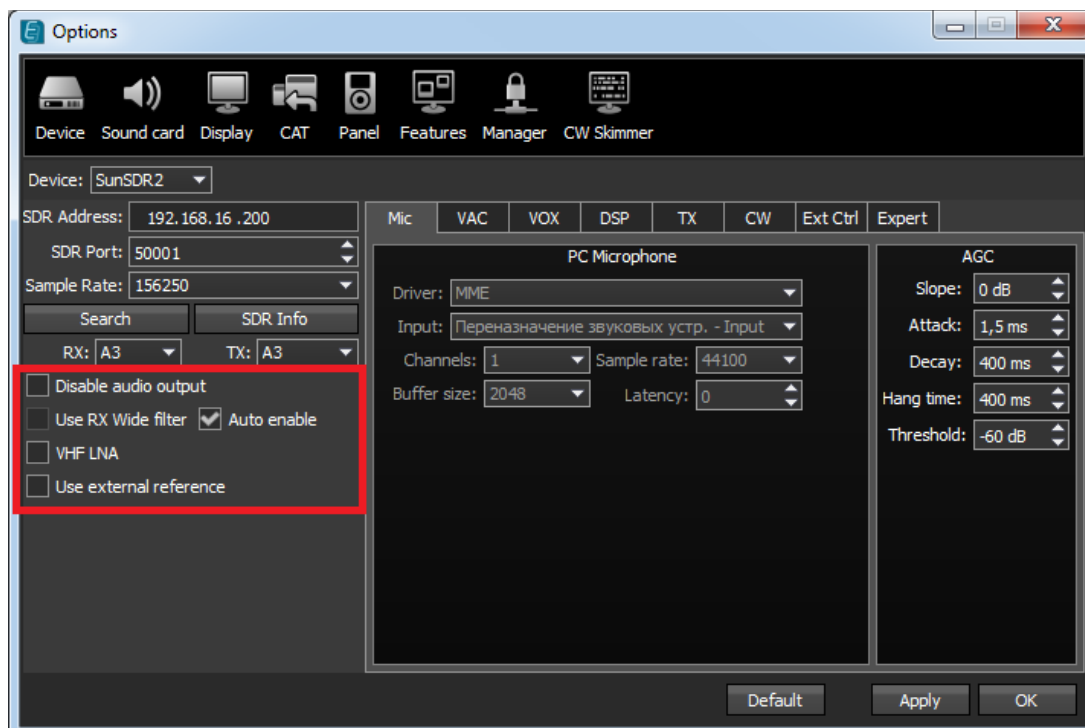

Figure 3.2 – Transceiver's settings
5. Open menu **Options**→ **Device** and set the check boxes in accordance with the figure 3.2: